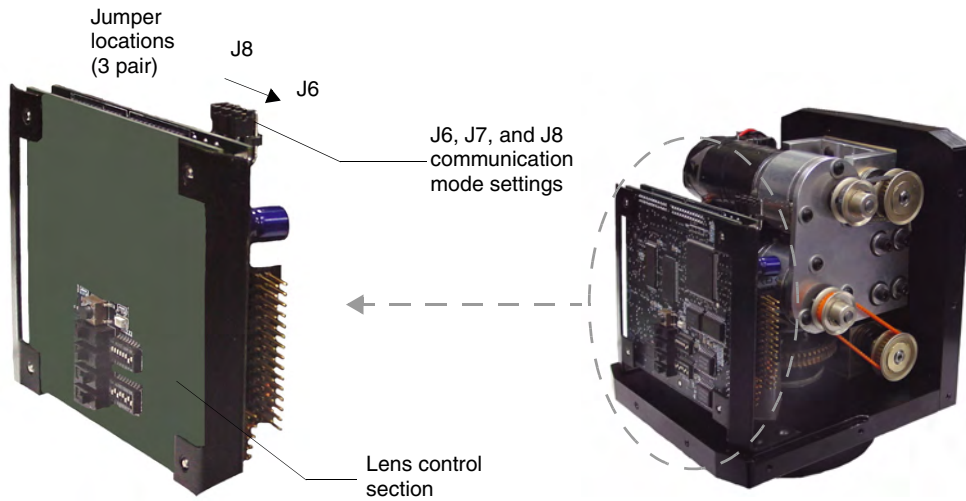

FIG. 10 Communication mode jumpers J6, J7, and J8 (factory default set to AXlink)
1. Locate jumpers J6, J7, and J8 communication mode jumpers on the Mother PCB (FIG. 10). The connectors and the main board are mounted onto the pan base.